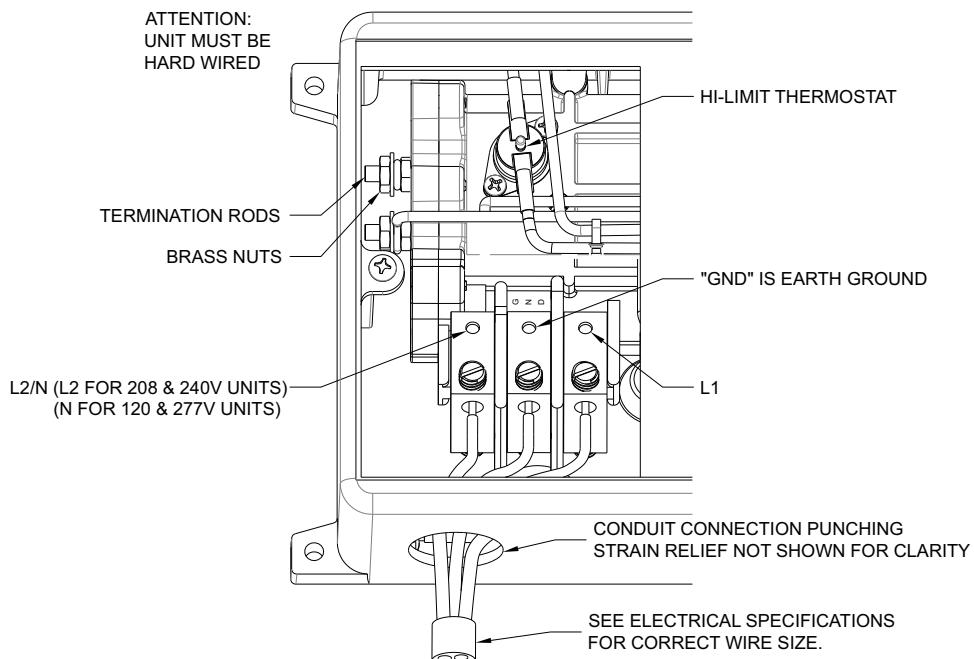

FIGURE 2 WIRING CONNECTION
1. Connect power supply wires appropriately sized and protected by circuit breaker to the input terminals on the heater (hard wired) as shown in the Figure 2 wiring diagram.
6. **High-Limit Thermostat** - Shut off power on breaker. Remove cover. Push in reset button on module. Refer to Figure 2 for location. Reinstall cover. Turn on breaker. If problem persists, contact factory.
7. **Heater Element** - Shut off power on circuit breaker. Remove cover. Measure element resistance by using an ohmmeter or multi-meter. Obtain your reading off of termination rods with brass nuts on each heater module. Refer to Figure 2 for location. This reading should be between 6 and 30 ohms for each element.